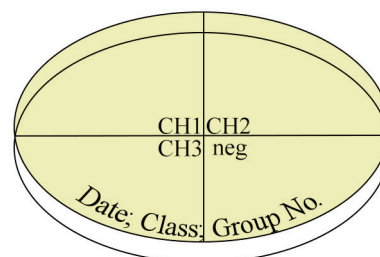

Fig. 26 LB / amp / IPTG agar plate
20. Draw 2 lines to divide the bottom of the LB/amp/IPTG agar plate into 4 quadrants. Label the bottom of the plate “CH1”, “CH2”, “CH3”, and “neg” with the date of the experiment and your group number (Fig. 26).